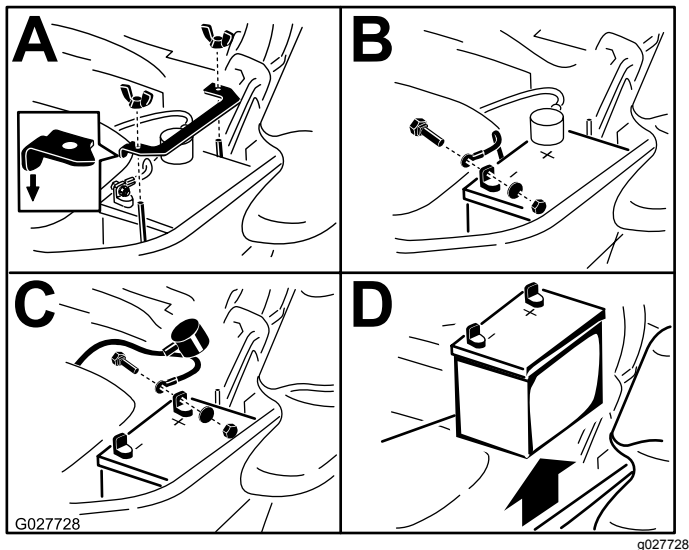

Figure 59
3. First disconnect the negative battery cable (black) from the negative (-)(black) battery terminal (Figure 59).
4. Slide the red terminal boot off the positive (red) battery terminal and remove the positive (+)(red) battery cable (Figure 59).
5. Remove the wing nut securing the battery clamp (Figure 59).
6. Remove the clamp (Figure 59).
1. Position battery in the tray with the terminal posts opposite from the hydraulic tank (Figure 59).
4. Secure the cables with 2 bolts, 2 washers, and 2 locknuts (Figure 59).
6. Install the clamp and secure it with the wing nut (Figure 59).